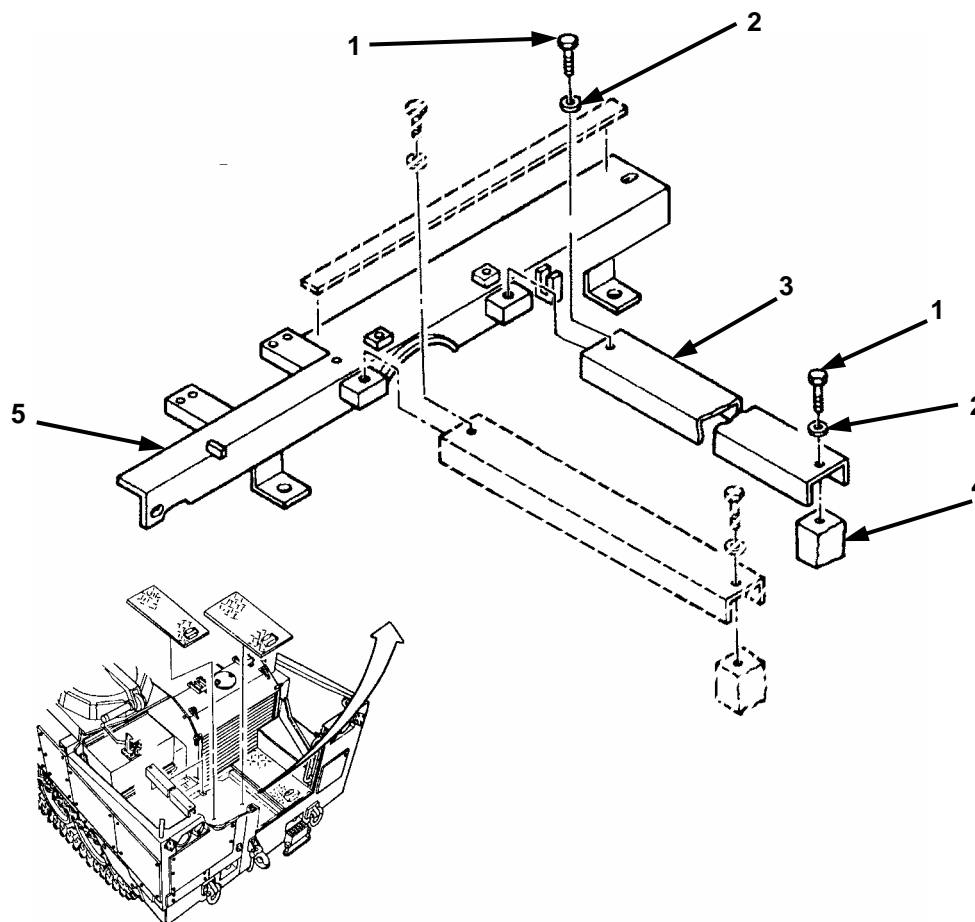

Figure 2-14. Right Side Floor Support.
5. Remove two bolts (Figure 2-14, 1), flat washers (2), and right side floor support (3) from rear support (5) and hull (4) and retain parts for future use.